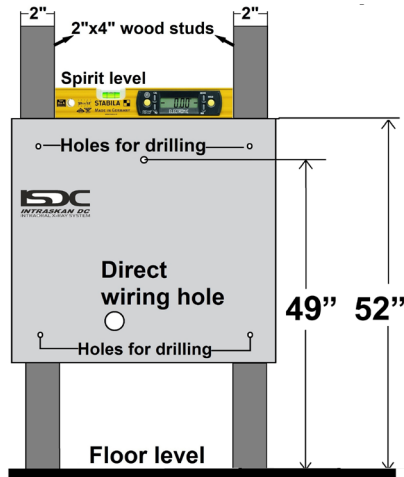
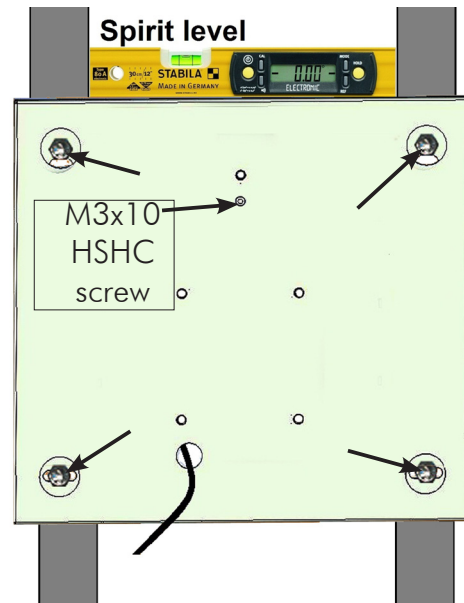

Figure 13: Mark and drill 4 mounting holes using 5/16-inch wood drill bit.
Figure 14: Fix optional plate with 4 lag screws using 17mm box spanner
- Remove M3x10 HSHC screw from the plate using 2.5mm allen key as shown in Figure 14 . Locate the 2x4 wood studs to mount the base unit plate and mark template holes and drill 5/16" holes to depth of 3.93" at the four locations as shown in Figure 13 .
- Route the input power cable coming from wall through the hole and fix the optional plate on the wall with four M10x100 lag screws and M10 washers using 17mm box spanner as shown in Figure 14 . Ensure that the plate is level on the top using spirit level.